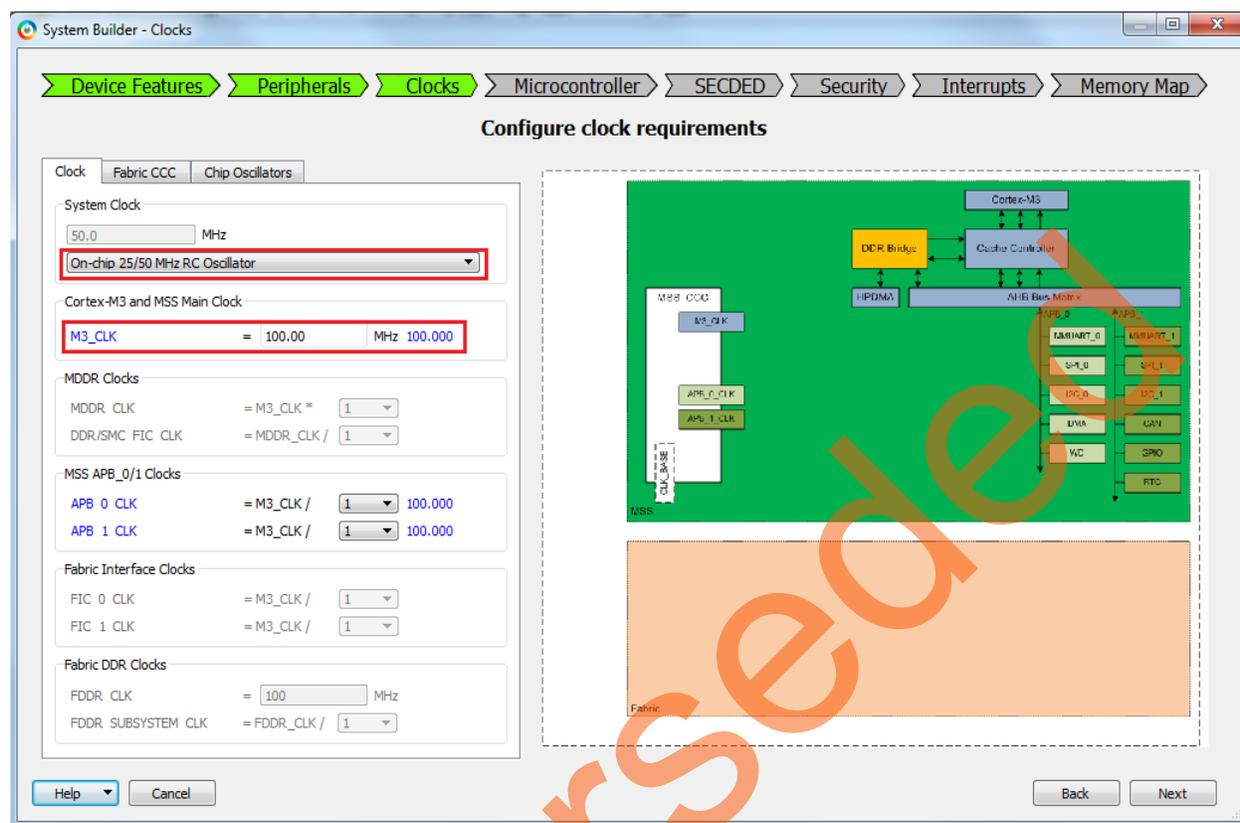

Figure 9 • System Builder Configurator – Clock Settings Page
- Click **Next**, the **System Builder – ClocksSettings** page is displayed, as shown in Figure 9. Select **System Clock** source as **On-chip 25/50 MHz RC Oscillator**. The M3_CLK is configured to 100 MHz by default.